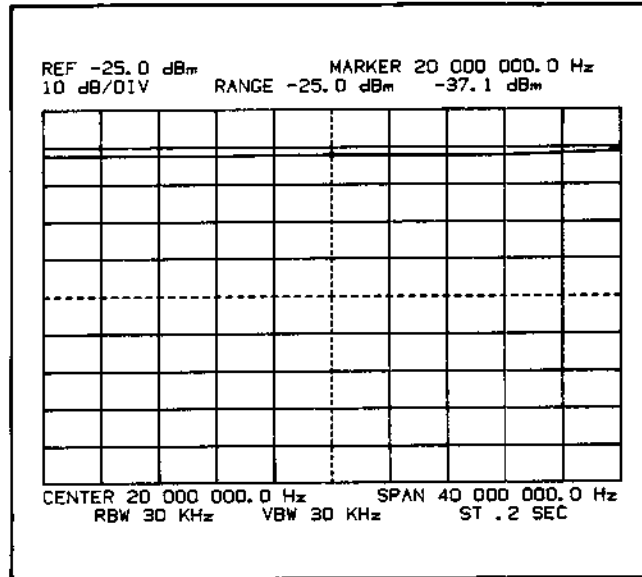

Figure 5-38. Normal Display For Test Mode 05
e. Push the cable completely onto A1J3. check that a display similar to Figure 5-38 is obtained.